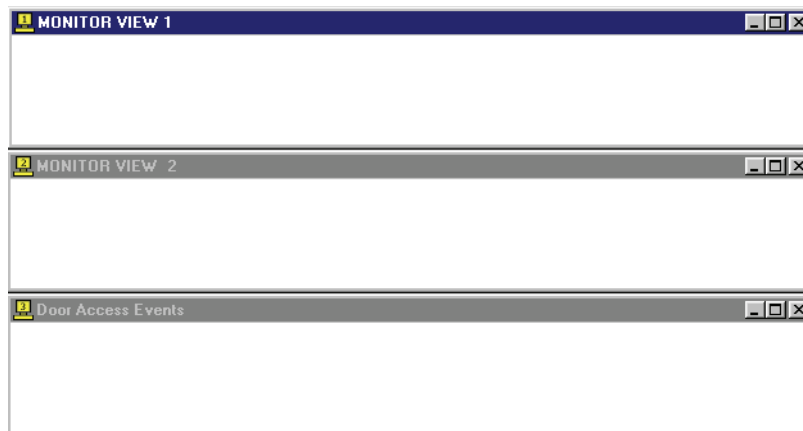

Figure 5-43: Tiled Monitoring Windows
3. Any combination of the three monitor windows can be open at the same time. Each can be sized individually, but the default is for all three windows to be tiled horizontally across the *Doors* window (see Figure 5-43).